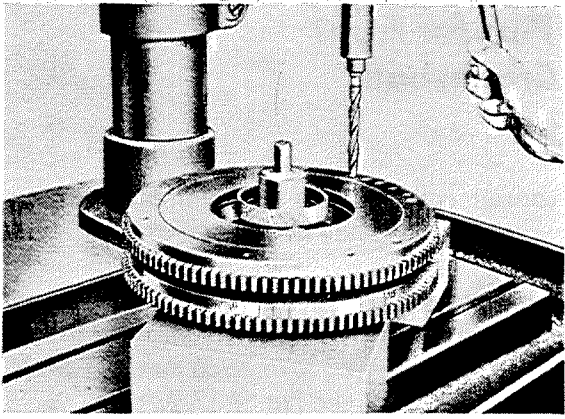

Fig. M 16a/4
4. If an unbalance is determined, drill holes with a diameter of 14 mm (0.55") and a max. depth of 8 mm (0.315") on a diameter of 240 mm (9.45") into the heavy side the new flywheel. Continue to drill holes until the system comes to rest in any turning position without swinging (Fig. M 16a/4).